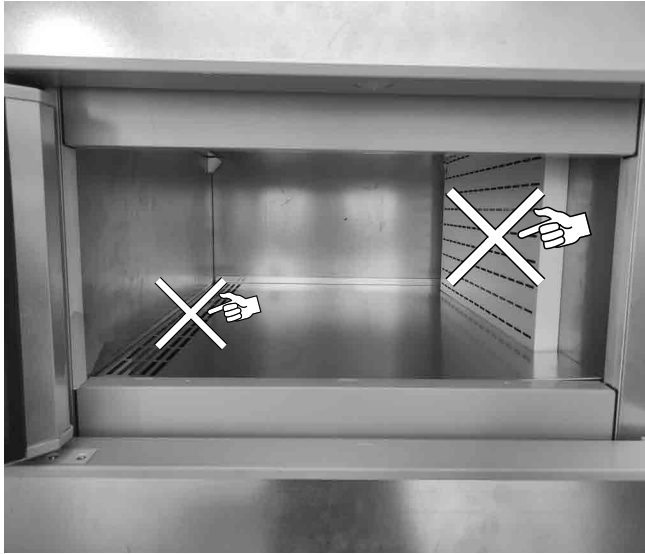

Fig. 22
- The goods do not obstruct the correct flow of refrigerated air ("Fig. 22")